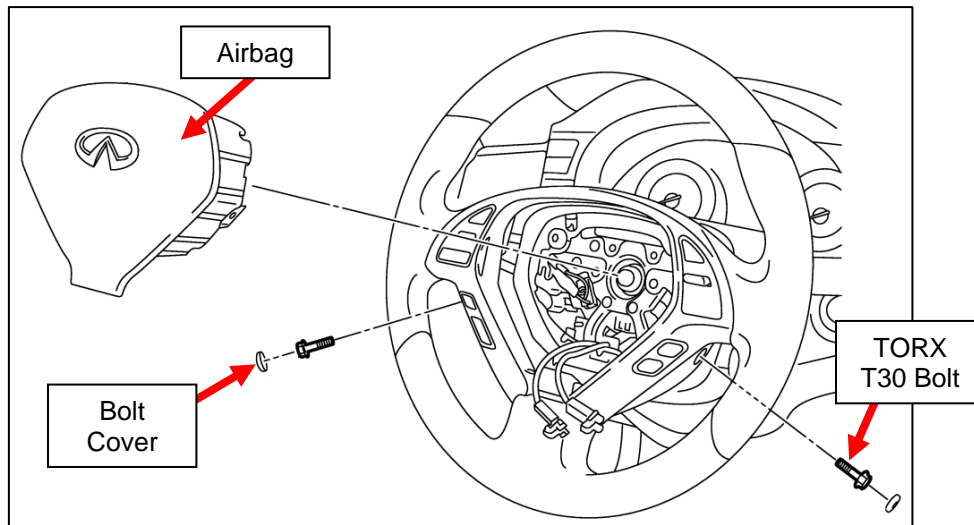

Figure 1
6. Remove the (2) two Covers hiding the (2) two bolts securing the Airbag to the Steering Wheel. *Figure 1.*
7. Remove the (2) two bolts securing the Airbag to the Steering Wheel. These need a TORX T30 Bit. It is recommended to replace these bolts after removal. *Figure 1.*